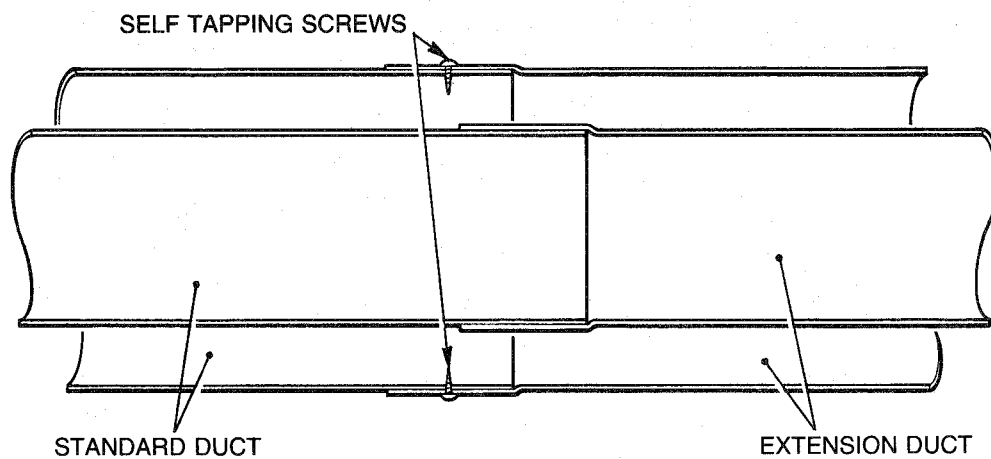

FIG. 9 EXTENSION DUCT ASSEMBLY PROCEDURE
- (c) If an extension duct is to be used, the flue and air ducts should be joined before proceeding to the next section. The extension ducts should be joined to the standard ducts using the following procedure (Fig. 9).
- (e) Drill two 3.3mm diameter holes in the air duct (larger duct) as shown in Fig. 9. Screw the two self tapping screws provided with each kit into the holes to secure the joint.